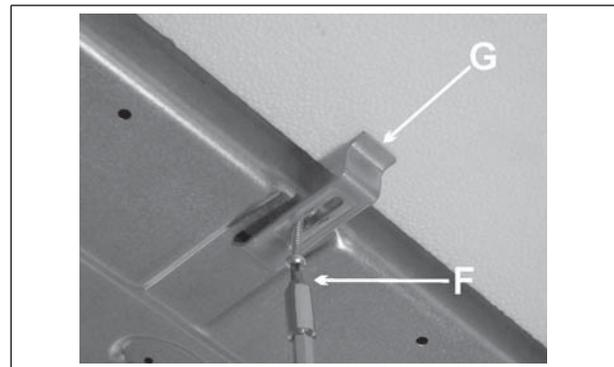

FIG. 12
- Position the hob in the hole in the unit and fasten it in place using the appropriate screws "F" of the fastening hooks "G" (see fig. 12).